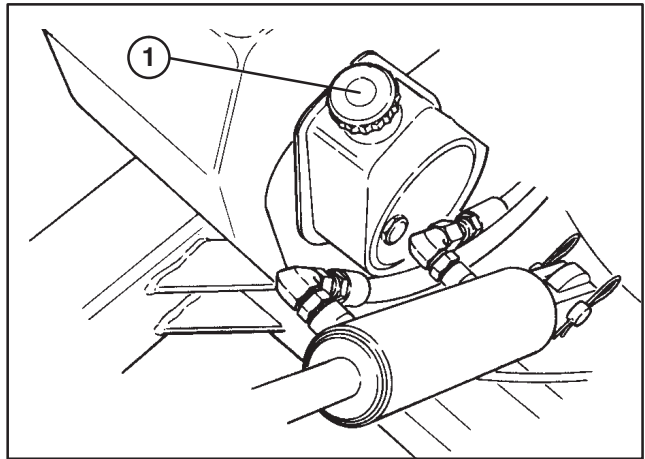

Figure 7
2. Remove dipstick cap (Fig. 7) from filler neck and wipe it with a clean rag. Insert dipstick cap into filler neck; then remove it and check level of fluid. If level is not within 1/2 inch from the full mark on dipstick, add SAE 10W–30 engine oil to raise level to full mark. Do not overfill.